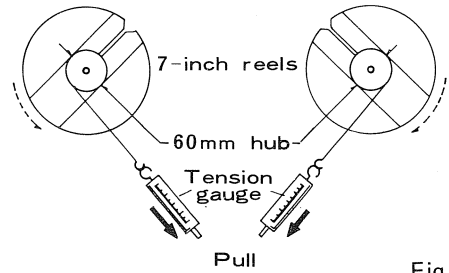

Fig. 13
2. Pull tension gauge until reel begins to turn in opposite direction (Fig. 13). Gauge reading should be between 7 and 20 grams.